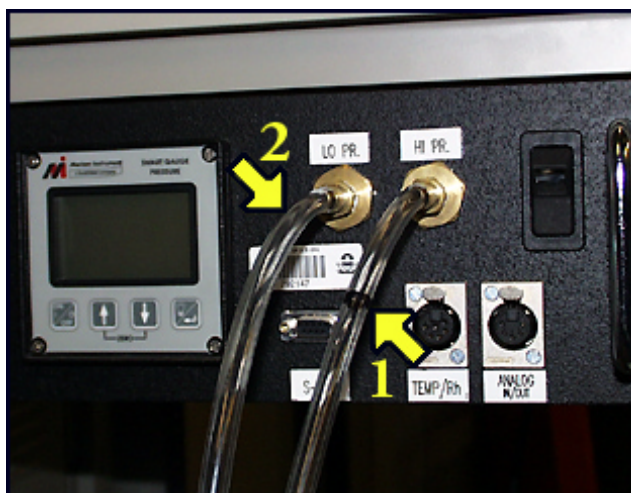

Figure 5
- 108 Connect the tube with the black banded line to Hi Pr transducer pressure port (See arrow 1 in Figure 5) and the unmarked tube to Lo PR port (See arrow 2 in Figure 5) on the front of the LFE Verification instrument panel.